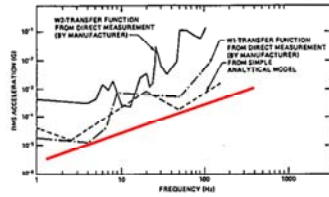

Fig. 1. Floor acceleration criteria for two photolithography devices, developed from transfer functions.
- Clue of where they were to go was in Fig. 1 (red line added by me)